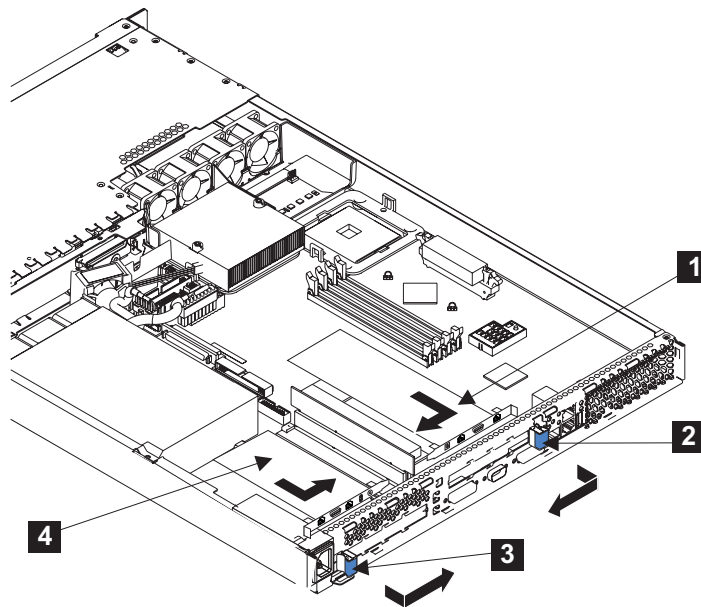

Figure 96. The SAN Volume Controller 2145-4F2 with its adapters installed
3. Pivot the expansion-slot clip (**2** or **3** in Figure 96) toward the adapter and press it into place.